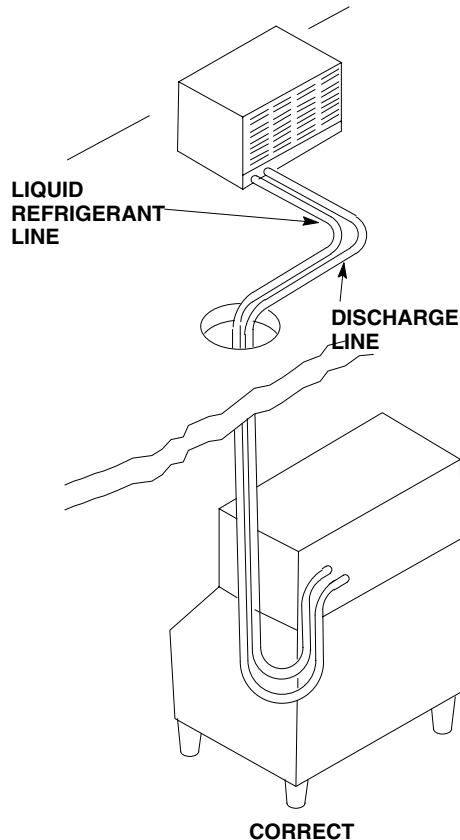

FIGURE 23
4. Each condenser and cuber is connected with two (2) *pre-charged lines (See Figure 23).